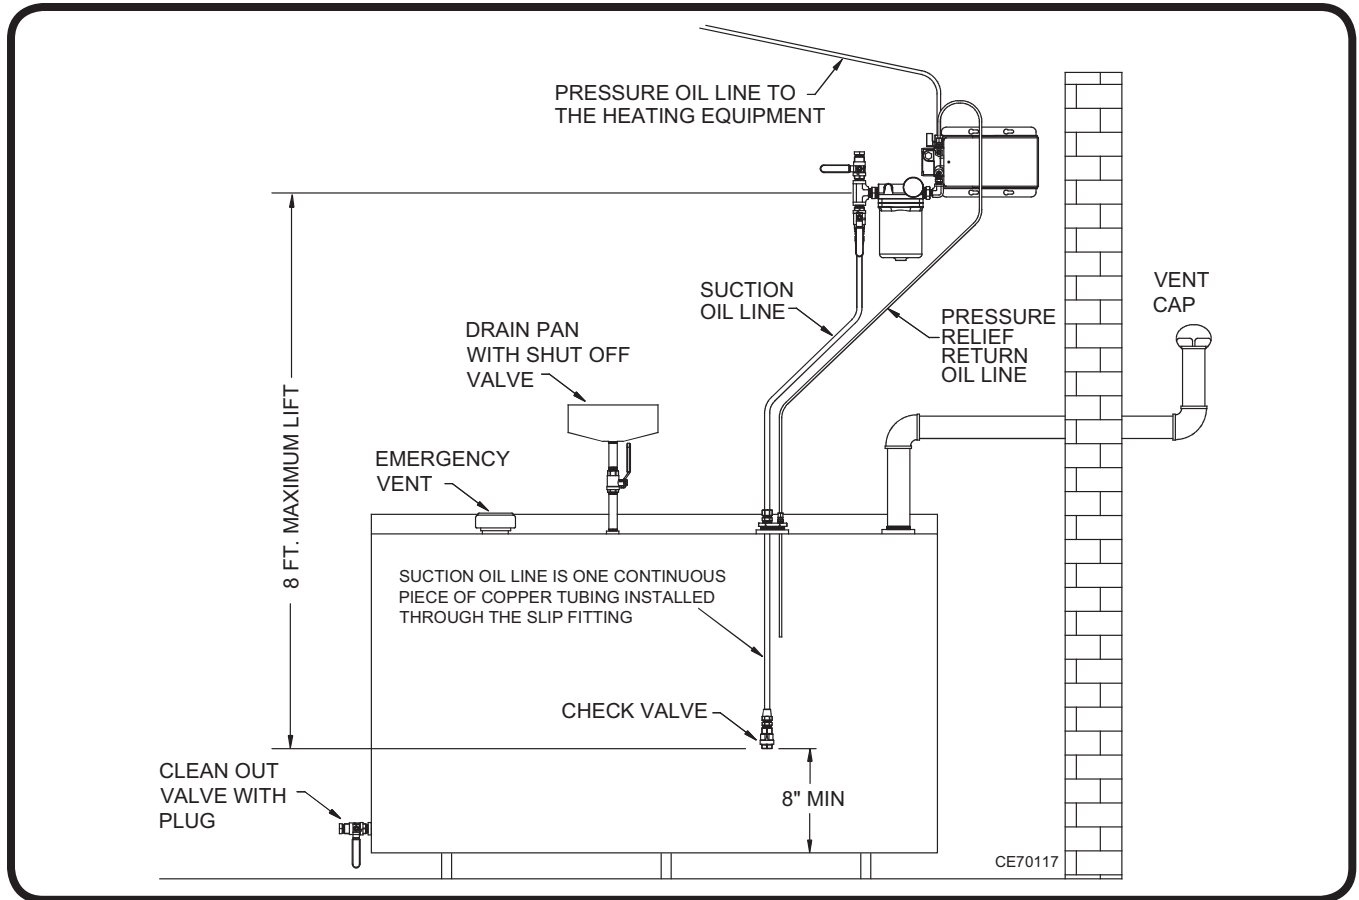

Figure 16: Typical Oil Storage Tank Installation
- (1) Refer to Figure 16 for a typical oil storage tank setup.
- (2) The tank must be installed according to all NFPA requirements and State and Local codes.
- (3) An inside tank is recommended.
- (4) Locate the tank in a position that will allow the oil pump to be mounted as close as possible
- (5) Only use a tank with a drain on the bottom. Over time, dirt and sludge will naturally accumulate on the bottom of the tank and there must be a way of removing this unwanted material.
- (6) Some state and local codes require the tank to be vented to the outside.
- (7) Educate all personnel what substances are allowed to be added to the used oil supply and apply the provided tank warning label near the fill location.